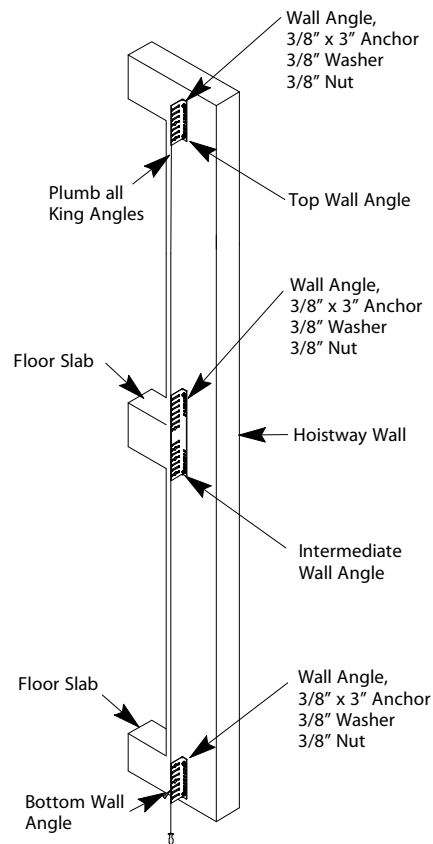

Figure 19 - Plumb and Square all King Angles
1. Hold a king angle against the wall as a template. See Figure 19 on page 26.